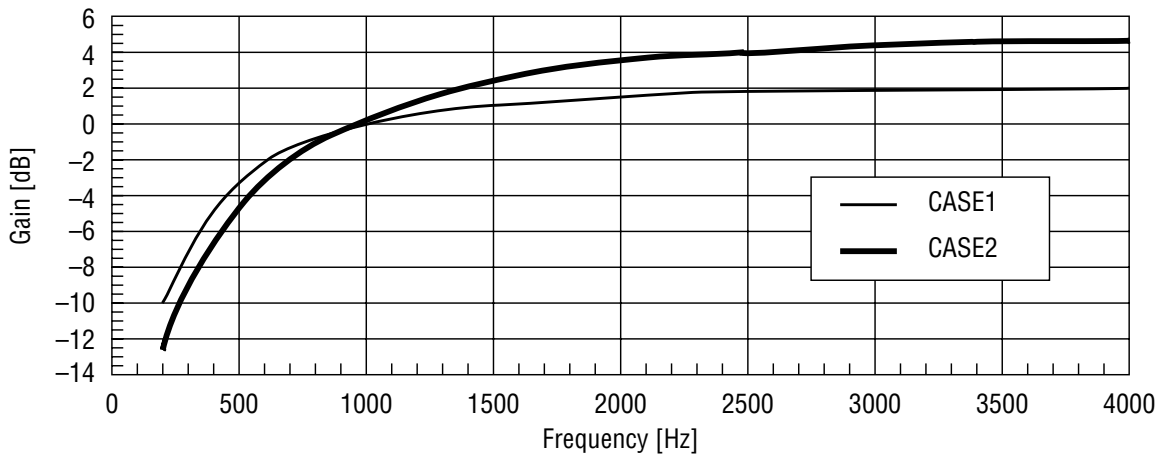

Figure 4 Frequency Response of Slope Filter
- B1 Slope Filter's frequency response select; 0/CASE1, 1/CASE2 Refer to Figure 4.